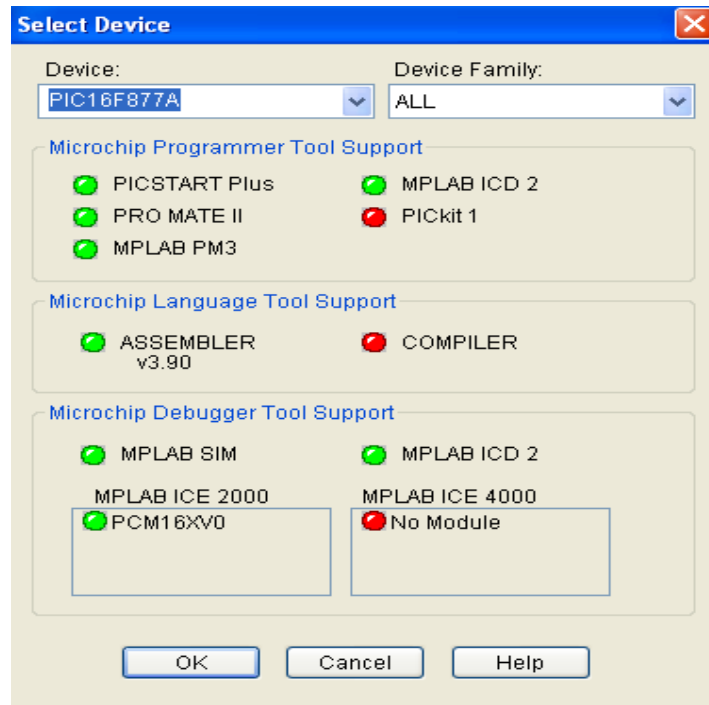

Figure 2 Selecting Device
Step 3: Click on **Configure -> Select Device** then choose PIC 16F877/PIC 16F877A as shown in (Figure 2) then press OK.